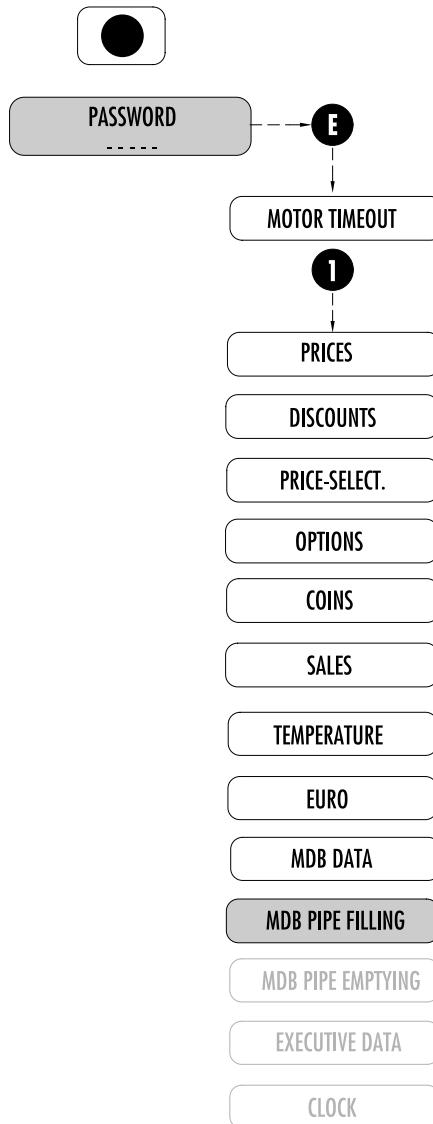

Fig. 7.14
7.2.11 MDB PIPE FILLING (Fig. 7.14)